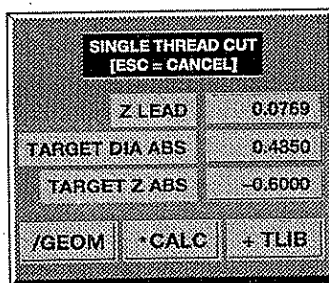

Figure 3-9
- 15) Press **[+]** **THREAD** key. A screen will appear as in Figure 3-9.